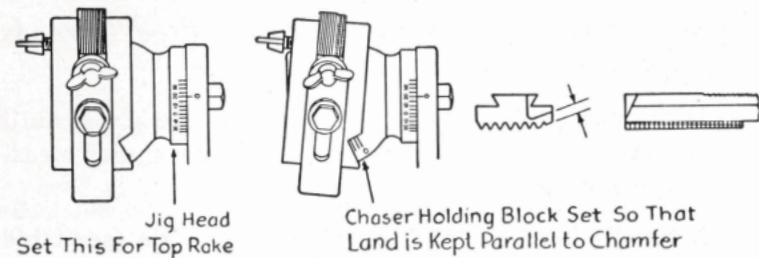

Figure 17
2. Set jig head to the desired top rake angle (see table of approximate rake angles on page 148). Then set the chaser holding block to the angle necessary so that the land is kept parallel to the chamfer. This angle varies with both rake and chamfer angles. See figure 17.